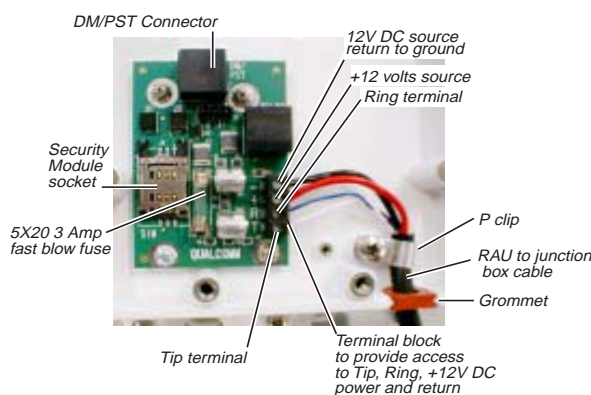

Figure 9. Detail of RAU inside
2. Run the RAU cable from the bottom of the junction box to the RAU. Connect the wire to the RAU using information in Table 8. See Figure 9 on page 17 for details.